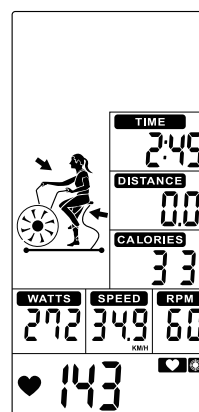

Figure 49
- ⑥ When Heart Rate goes between 65% ~ 85%, only  will flash (Figure 49).
- ⑦ No signal input for 30s, buzzer sounds 1 short beep and enter to Wake-up mode.
- ⑧ Press START button once enter into PAUSE mode, Buzzer will sound for 0.5s per second within 30s. All values are displaying on LCD and flashing in every 2s. If continue to stop training for 5 minutes, buzzer sounds 2s and enter to Wake-up mode. Press START to resume workout.